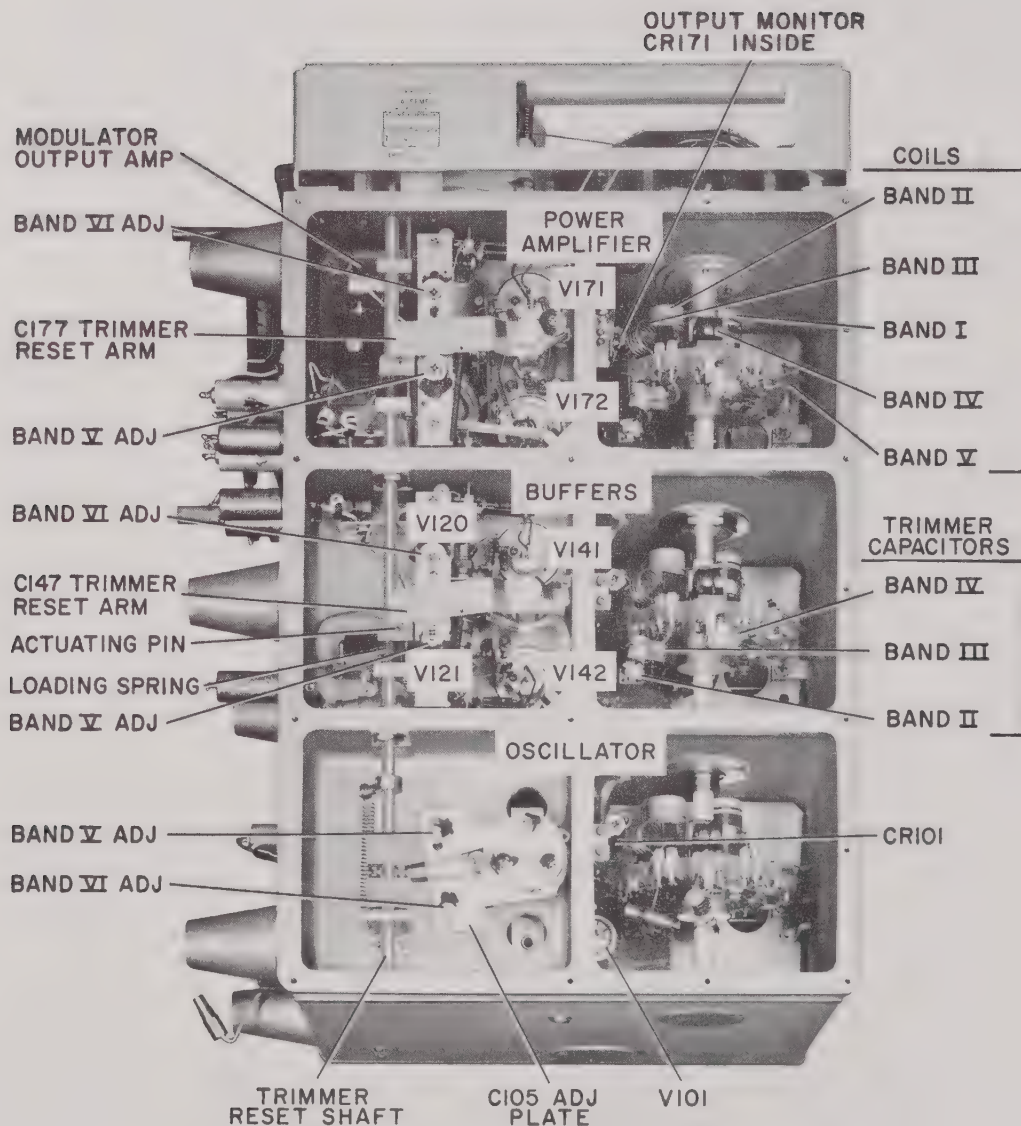

Figure 5-11. RF Assembly right interior view. Trimmer arms are shown with the lower stops engaged, as for Bands I – V.
5.6.4 TUBE REPLACEMENT. (FIGURE 5-11).
Untuned buffer tubes, V120 and V121, are located in the middle small compartment (see Figure 5-11). Remove plate clip carefully, grasp the cylindrical plate contact with a pair of long nosed pliers, and withdraw the tube. When replacing these tubes, the prongs protruding from the base are engaged by matching recesses on the tube sockets to orient the pins correctly. These tubes should be replaced in pairs, but no special matching is required. No realignment is required after replacing these tubes.